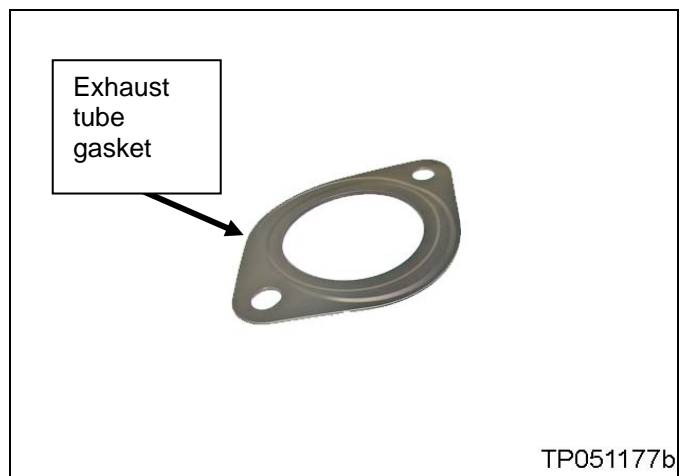

Figure 1c
- Exhaust tube gasket (see Figure 1c)